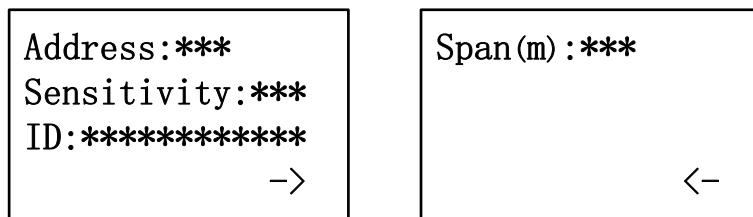

Figure 9: Interface Display
2. Switch on the programmer, then press button "1" to view the address [for addressable system use only], code and sensitivity level. Refer to Figure 9.
3. Press button "Page" to view the Span parameter. Refer to Figure 9.